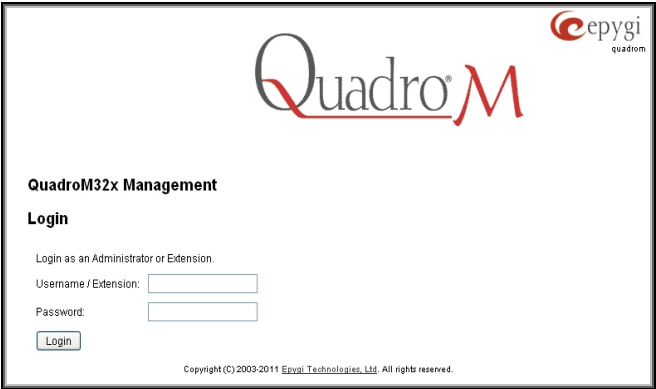

Fig. I-27: Login page
- The **Login** page of the Quadro will be displayed (see Fig. I-27).